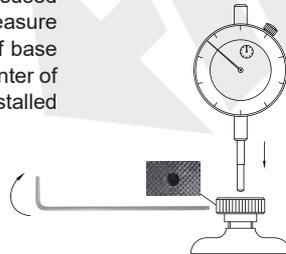

Fig.1
2. Select the tip according to the shape of workpiece. Ball tip is used to measure the plane surface. Pointed tip is used to measure concave or complicated surface. Insert indicator into hole of base plane, use a wrench to insert it into the locking hole in the center of the lock nut to lock it to ensure that the measuring head is installed firmly and reliably (Fig.1).